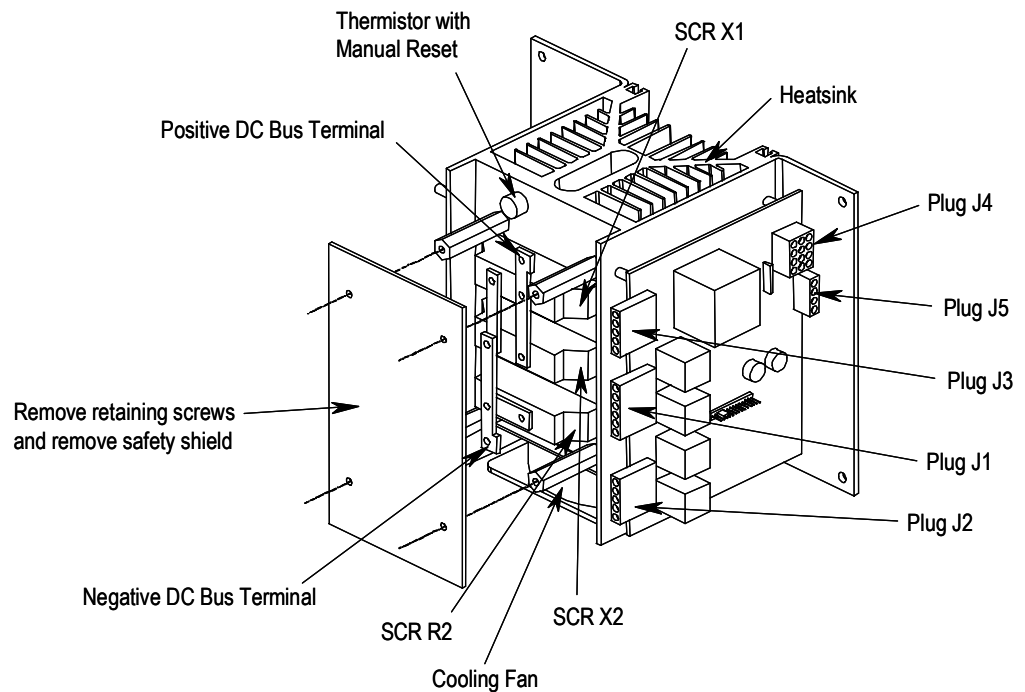
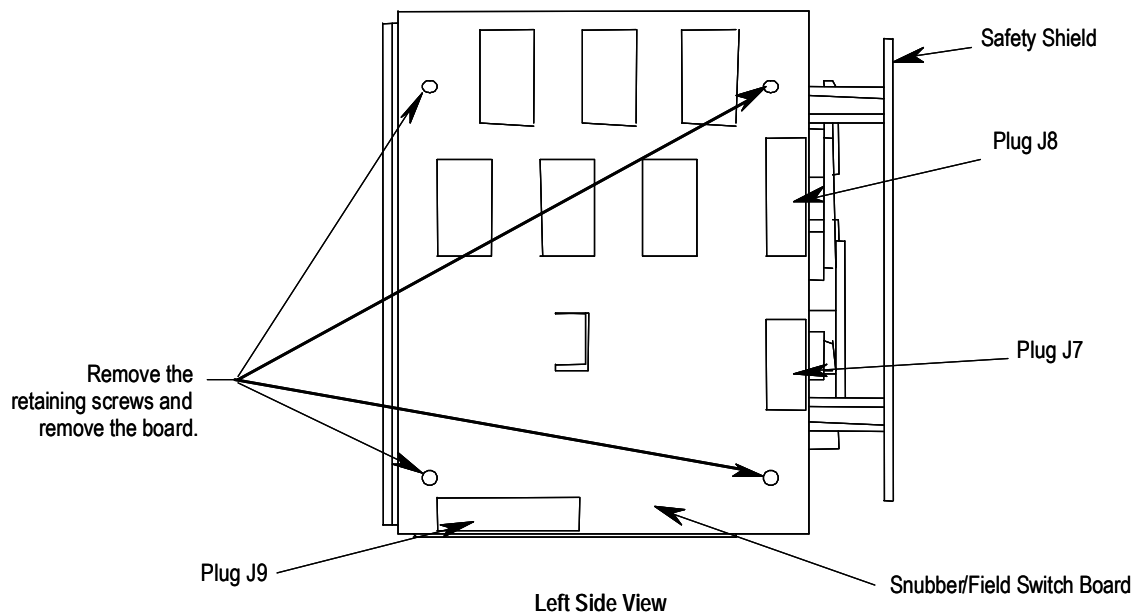

Figure 5.1 – Electrical Connections to Rectifier Bridge Assembly
Figure 5.3 – Snubber/Field Switch Board Replacement
- 3) Verify that the excitation source is off by testing points X1 and X2 (see Figure 5.1) with a hotstick or appropriate voltage measuring device.
- 4) Verify that there is no voltage on the positive and negative terminals of the DC bus (see Figure 5.1) with a hot stick or appropriate voltage measuring device.
- 7) Remove the wire plugs at points J3, J4, (see Figure 5.1) J9 (see Figure 5.3), and at the cooling fan.
- 6) Disconnect the wire plugs from J7, J8 and J9 (see Figure 5.3).
- 4) Remove retaining screws from safety shield and remove safety shield (see Figure 5.1).